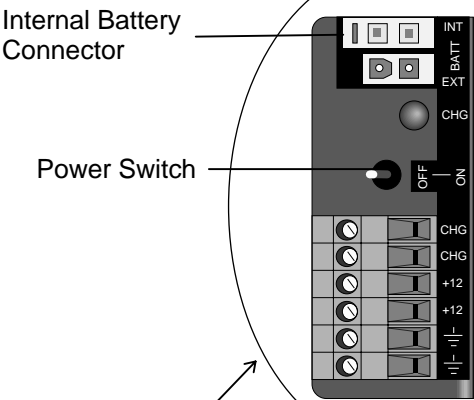

FIGURE 3.1-3. PS12LA/CH12R Wiring and Switch Panel
1. With the PS12 power switch "OFF", insert the battery and plug the battery lead into the connector labeled "INT". (Figure 3.1-3)